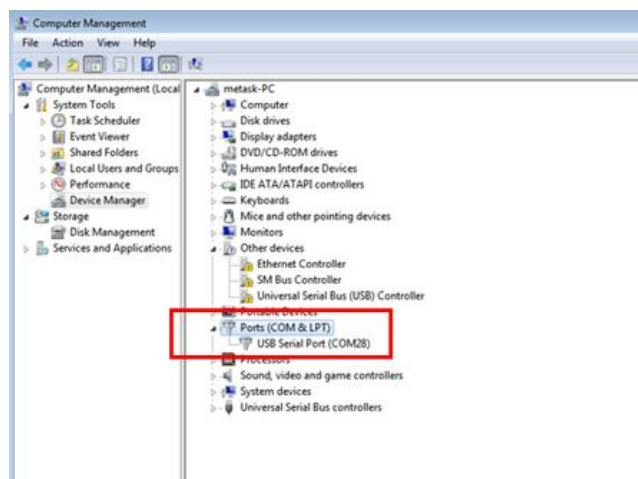

Fig.3.16
4) Select 'Ports (Com & LPT)', and check the USB Serial Port (Fig. 3.16).